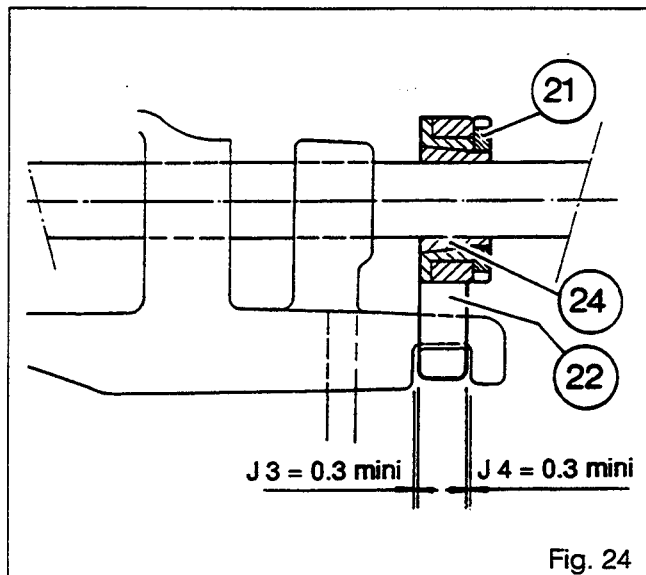

Fig. 24
98. Apply plays **J3** and **J4** (**min. = 0.3 mm**) equally so that the mechanical latch (**22**) operates unhampered (Figures 24 and 25).